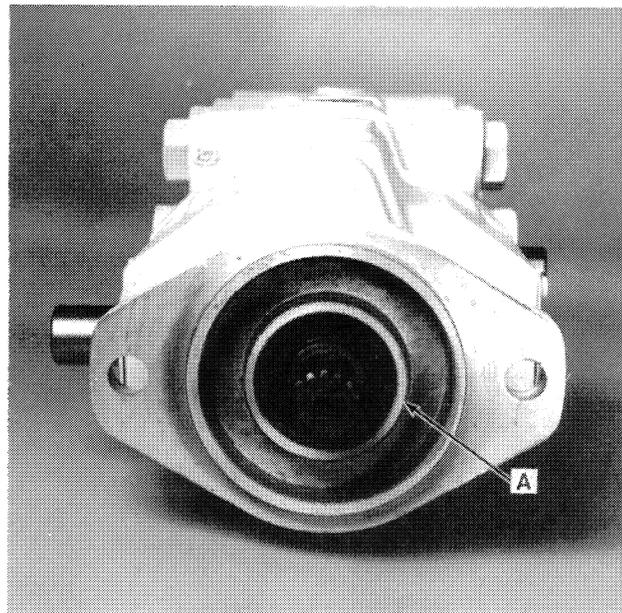

FIGURE 4-10
- a. Remove the large snap ring, A, Figure 4-10.